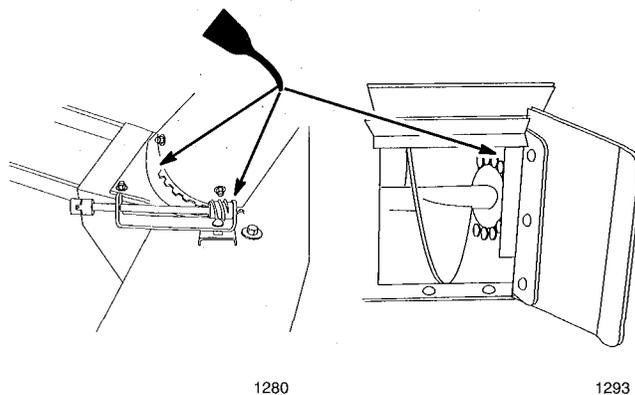

Figure 30
2. Coat the entire chain with oil and allow to penetrate each roller (Fig. 30).
3. Place a few drops of oil on discharge chute rotator shaft and discharge chute mounting (Fig. 30).